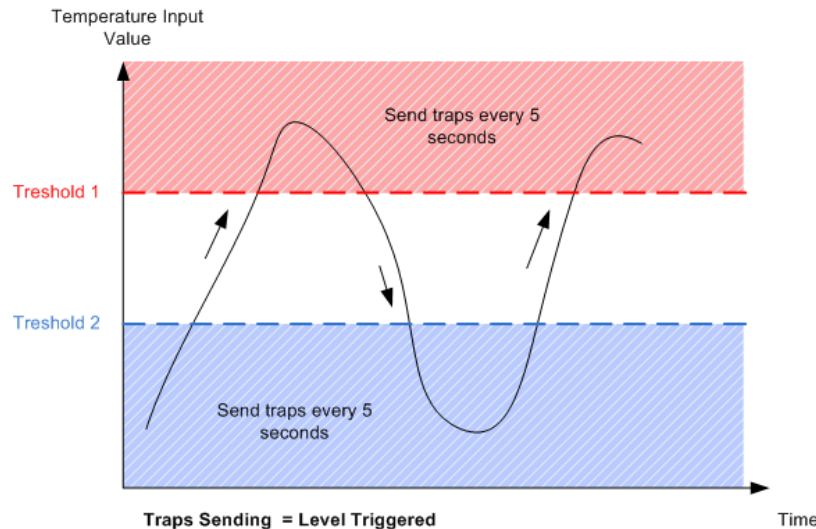

Figure 7.24. Sending tarps with **Traps Sending** = "Level Triggered"
- If **Traps Sending** parameter from web page "**SNMP Traps Settings**" is set to "**Level Triggered**" and if the Temperature Input value is less or equal than **Low Threshold** or greater or equal than **High Threshold** traps will be sent every 5 seconds (Figure 7.24);